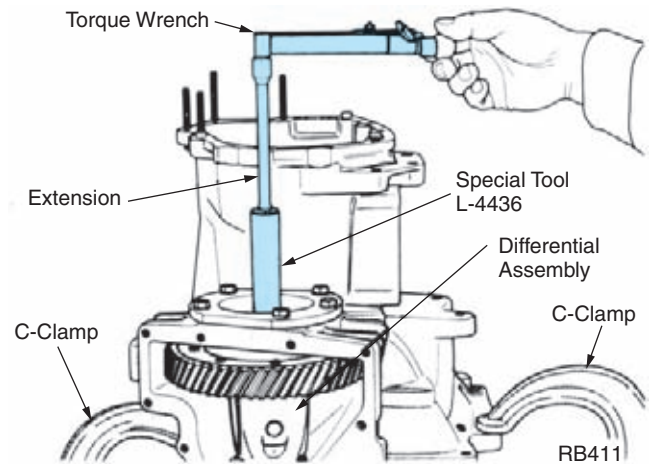

FIGURE 8-94 The preload or turning torque required to rotate a shaft can be measured using a torque wrench. (Courtesy of DaimlerChrysler Corporation)
6. Using a torque wrench or spring scale and adapter, measure the torque required to keep the shaft rotating, not the breakaway or starting torque (Figure 8-94).